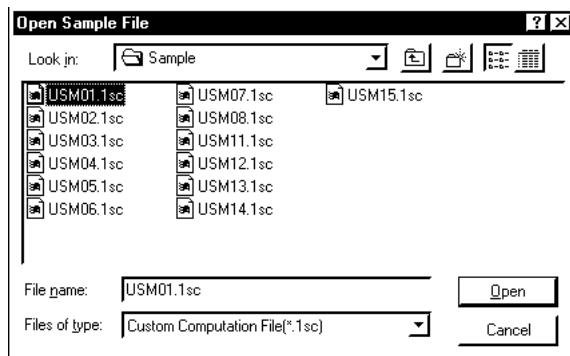

Figure 7.3.2 [Open Sample File] Dialog Box
- ① From the tool menus, choose <File>, then <Open Sample File...>. The [Open Sample File] dialog box (Figure 7.3.2) appears.
- ③ Click the <Open> button.
- ④ When file reading is complete, the [Custom Computation Configuration Menu/Custom Display Configuration Menu] dialog box appears.